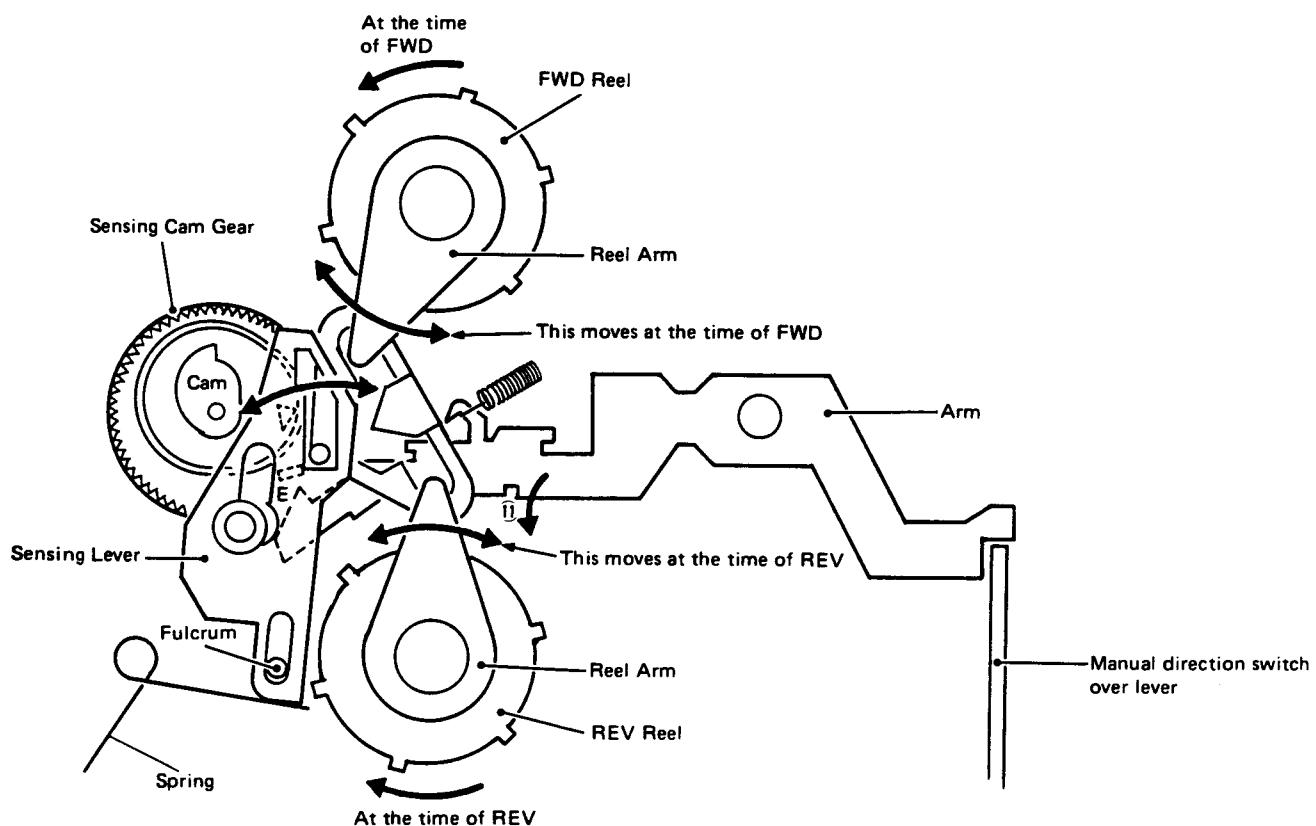

Fig. 18
## ● Sensing Operation (Fig. 18, 19, 20)
1. When the manual direction switch over lever of Fig. 18 is pushed, the arm moves along arrow direction ⑮. Further operation is identical to that in auto.